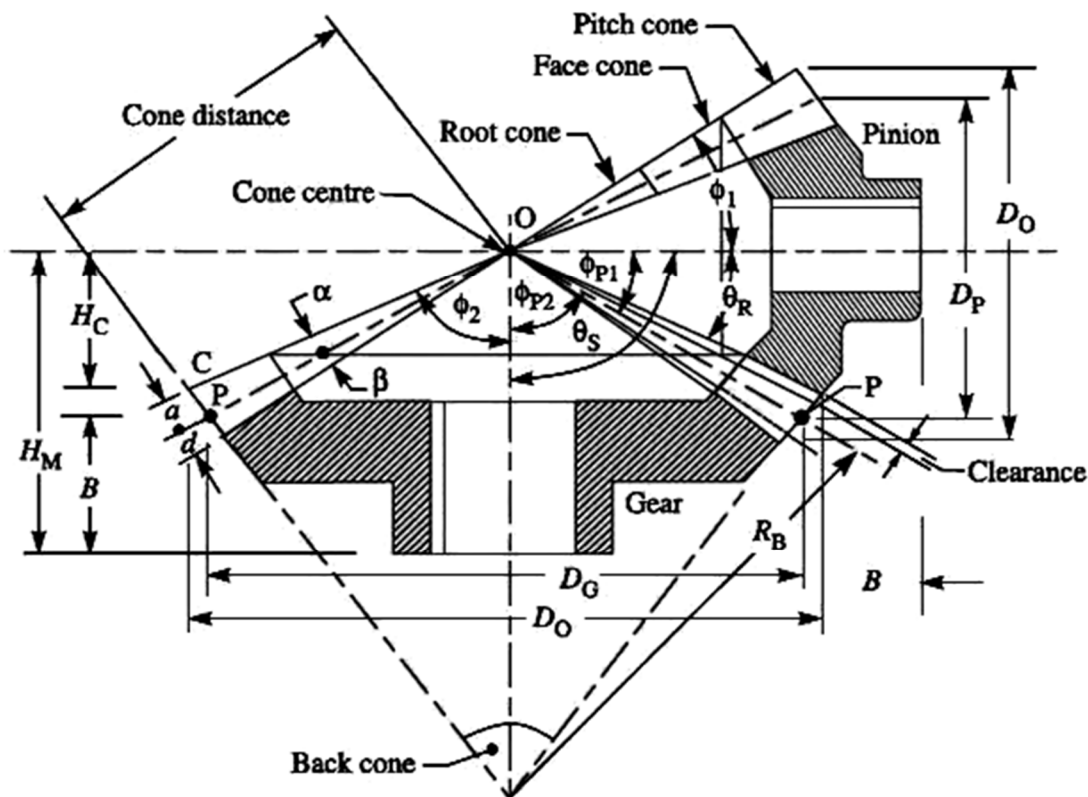

Fig. Q4 (b)
- Consider a pair of bevel gears in mesh, as shown in Fig. Q4 (b).